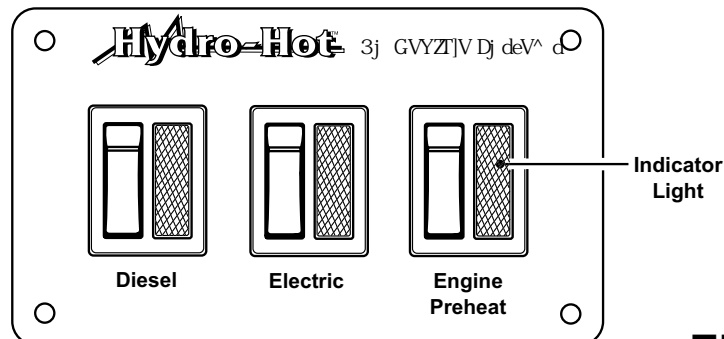

Figure 2
Turn the **Diesel** switch **ON**, reference **Figure 2**. This procedure will activate the Diesel-Burner and the indicator light located on the Diesel switch. Allow 10-20 minutes for the Hydro-Hot System to reach operating temperature. Please note that the Diesel-Burner is the **primary heat source** for heating both the interior and the domestic hot water (such as when cool ambient temperatures exist and/or when there is a high demand for domestic hot water).
Turn the **Electric** switch **ON**, reference **Figure 2**. This procedure will activate the 120 VAC Electric Heating Element and the indicator light located on the Electric switch. Allow 1-2 hours for the Hydro-Hot System to reach operating temperature.
- A.** Turn the Hydro-Hot's **Engine Preheat** switch **ON**, reference **Figure 2**. This procedure will activate the Engine Preheat Circulation Pump and circulate the engine's coolant through the Engine Preheat System. This feature will adequately warm the engine for easy start-ups on cool mornings.